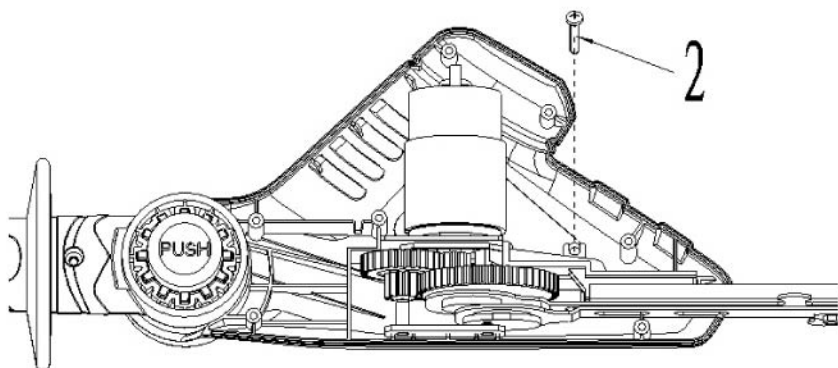

Fig.25
Step 2: Loosen and remove the screws (2) (See Fig.25)